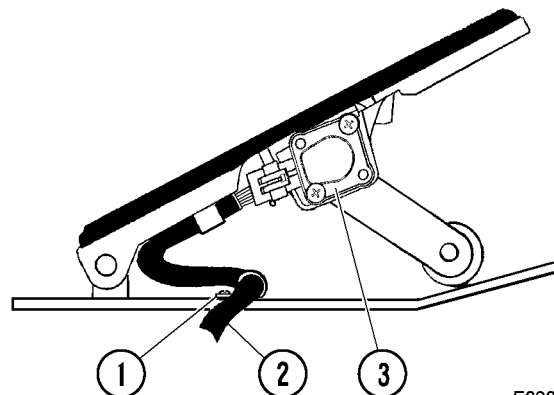

FIGURE 2-7. TYPICAL ELECTRONIC PEDAL
1. Remove the screws for cable clamps (1, Figure 2-7). The clamps can remain attached to wiring harness (2).
2. Remove the mounting screws and potentiometer (3).